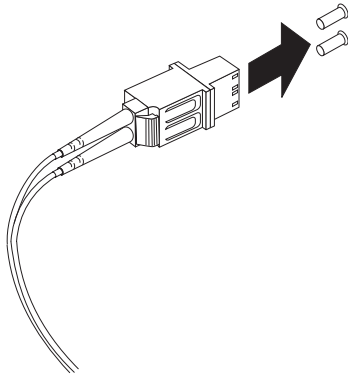

Figure 33. Removing the LC-SC cable adapter protective caps
3. Remove the two protective caps from the LC connector end of the LC-SC cable adapter as shown in Figure 33 on page 44. Save the protective caps for future use.